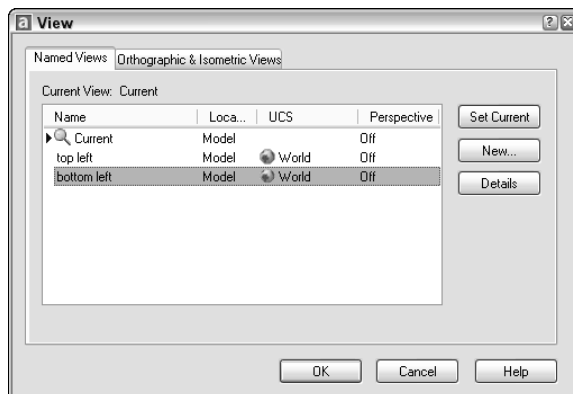

Figure 8-13: The View dialog box now lists the views you have saved.
10. Select Define Window and then click the Define View Window button. At the Specify first corner: prompt, pick the bottom-left corner of your screen. At the Specify Opposite corner: prompt, pick again around the center of the warehouse. Back in the New View dialog box, click OK. The View dialog box should list both of your views, as shown in Figure 8-13. Click OK to close the View dialog box.